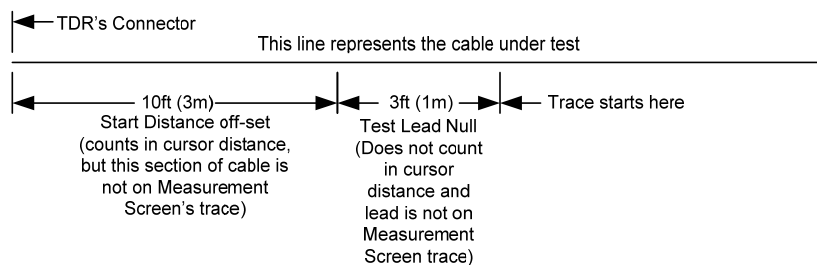

Figure 3-56
2. If Start Distance other than zero is entered and Test Lead Null is turned ON at the same time, the Test Lead Null will take effect after the Start Distance (off-set). Example: With a Range set to 20ft (5m), a Start Distance of 10ft (3m) is entered, and Test Lead Null of approximately 3ft (1m), the display will actually start at approximately 13ft (4m). A cursor placed at the far left of the plot display will show the 10ft (3m) of off-set, but not the 3ft (1m) of Test Lead Null. See figure 3-56.